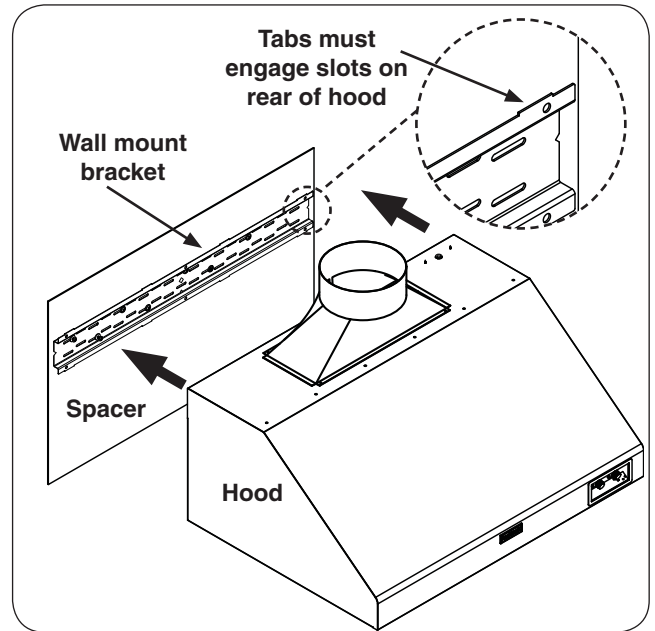

Fig. 14-1 Rest vent hood in place
1. Rest the vent hood onto the wall mount bracket, being sure that the tabs on the bracket engage the slots on the rear of the hood for proper support. See Fig. 14-1.